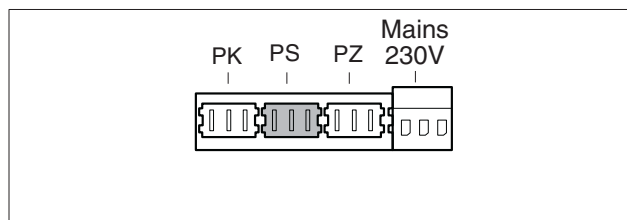

fig. 55 Terminal strip - DHW pump 230V (connection colour grey)
- Connect the DHW pump to the grey PS terminal (fig. 55). The maximum allowed connected load of the pump = 250 Watts.